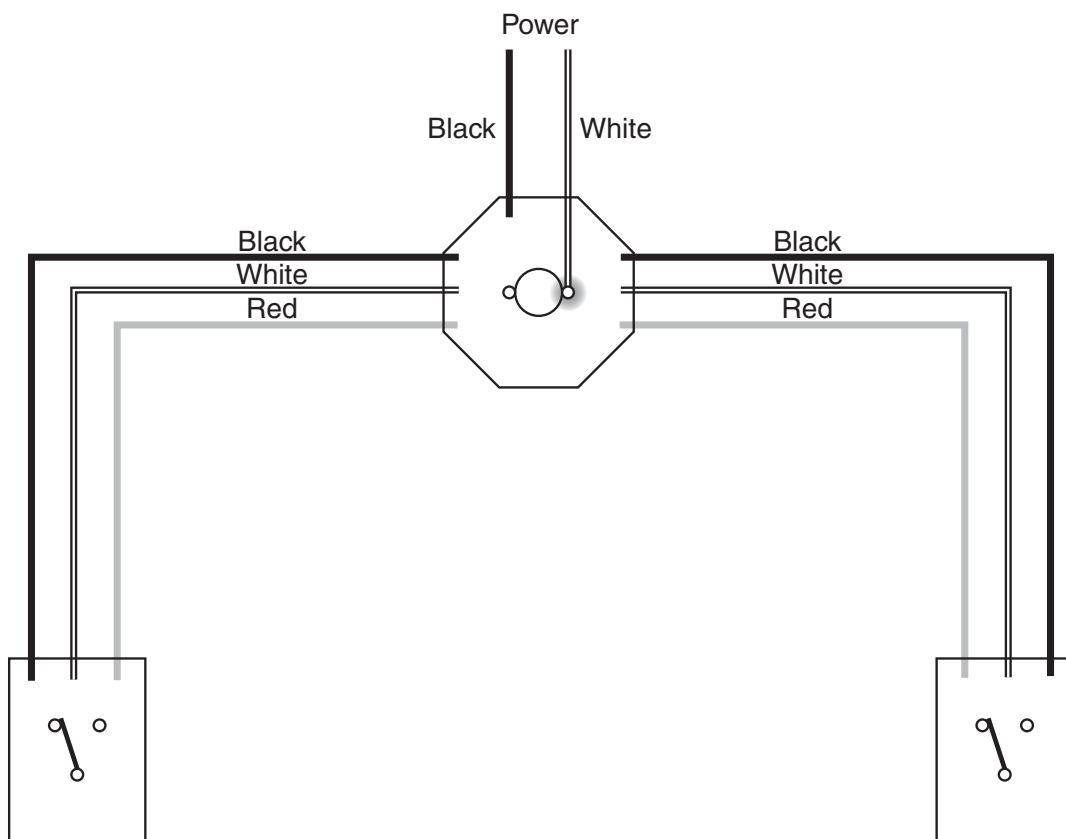

Figure 8-14 The white wire of the power cable is connected to the light.
1. *Connect the neutral to the light.* The neutral is the white wire in the power cable. Connect this wire directly to the light, as in Figure 8-14.